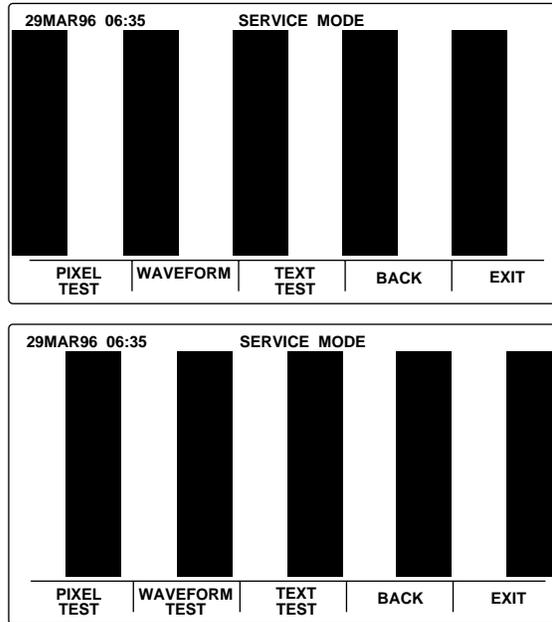

Figure 3-4: Pixel Test Display
- From the graphics test submenu, press softkey #1, "PIXEL TEST". Verify that one of the patterns of pixels illustrated in Figure 3-4 is displayed. Press the "PIXEL TEST" softkey again to clear the test pattern.